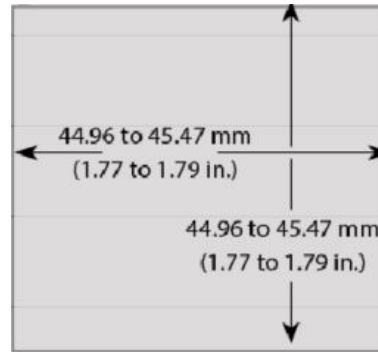

Figure 2-1: PM6 PLUS Panel Cutout Mounting Dimensions
1. Make the panel cutout using the measurements in Figure 2-1 or Figure 2.-2 .